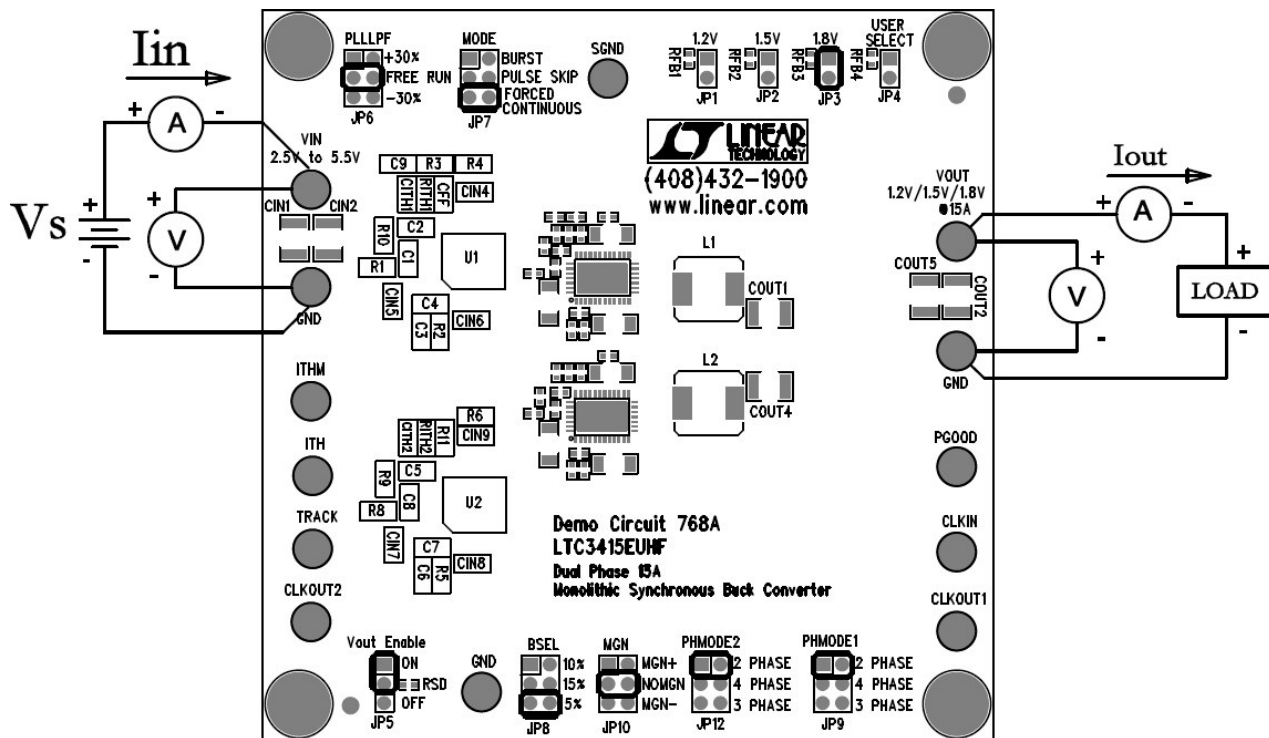

Figure 1. Proper Measurement Equipment Setup
Demonstration Circuit 768 is easy to set up to evaluate the performance of the LTC3415. For proper measurement equipment configuration, set up the circuit according to the diagram in **Figure 1**. Before proceeding to test, make sure the jumper shunts are in the appropriate header according to the legend in **Figure 1**, except for one exception: insert jumper JP5 shunt into the off position, which connects the RUN pin to ground (GND), and thus, shuts down the circuit.
1. With the DC768 set up according to the proper measurement and equipment in **Figure 1**, apply 3.3V at Vin (Do not hot-plug Vin or increase Vin over the rated maximum supply voltage of 5.5V, or the part may be damaged.). Measure Vout; it should read 0V. If desired, one can measure the shutdown supply current at this point. The supply current will be approximately 400 uA, or less, in shutdown.